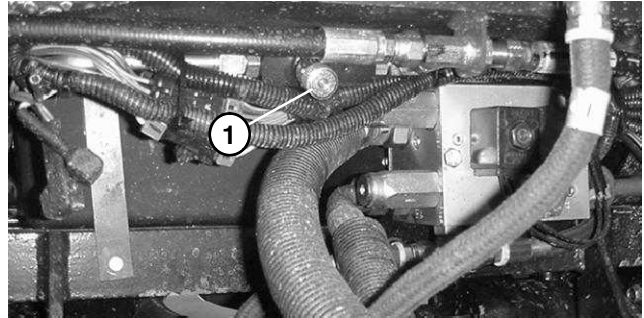

Figure 38
2. Locate valve under front of machine (Fig. 38).